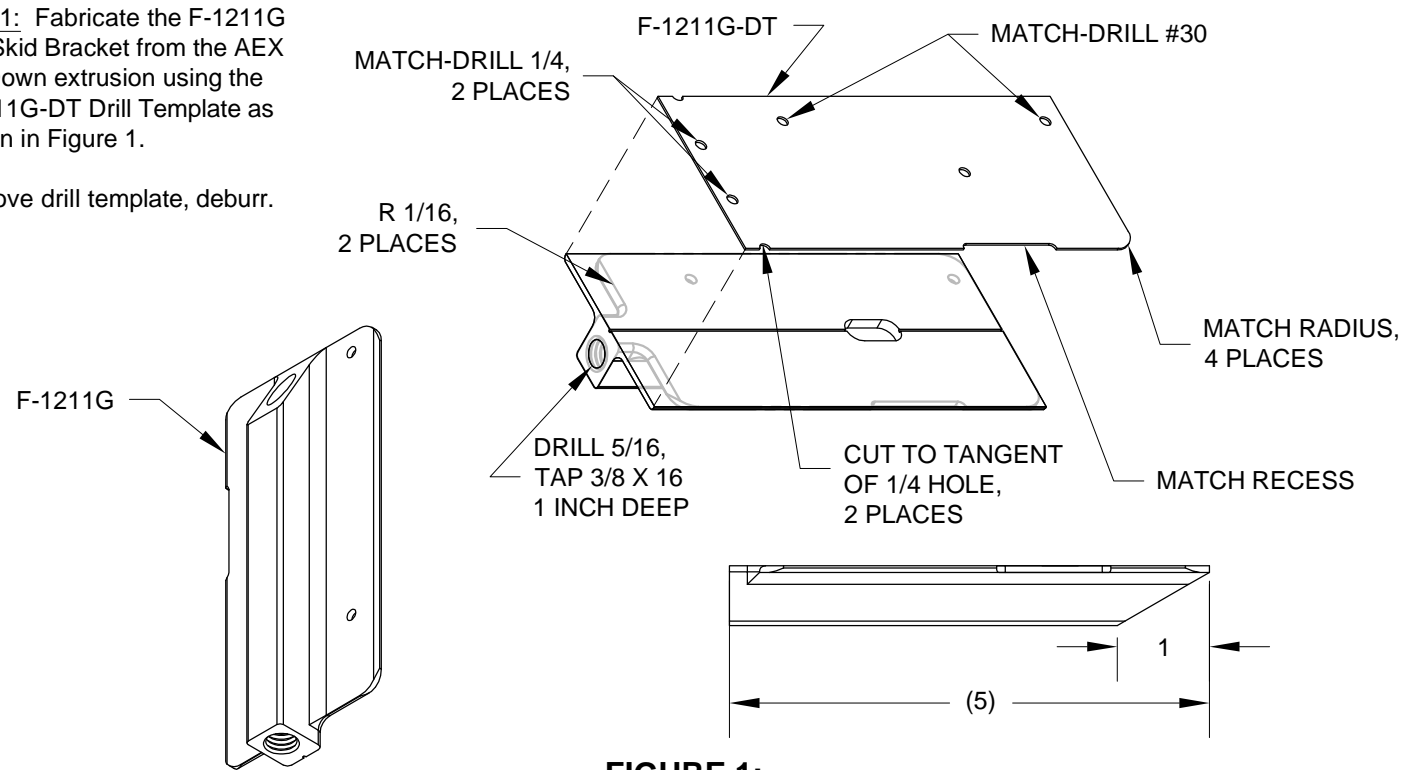

FIGURE 1:
Step 1: Fabricate the F-1211G Tail Skid Bracket from the AEX Tie Down extrusion using the F-1211G-DT Drill Template as shown in Figure 1.